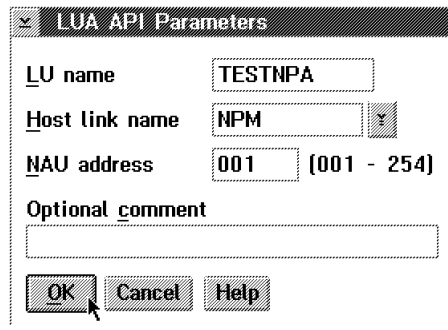

Figure 2-60. LUA API Parameters
- LUNAME (TESTNA) = LU name (define in Figure 2-60 on page 2-48)